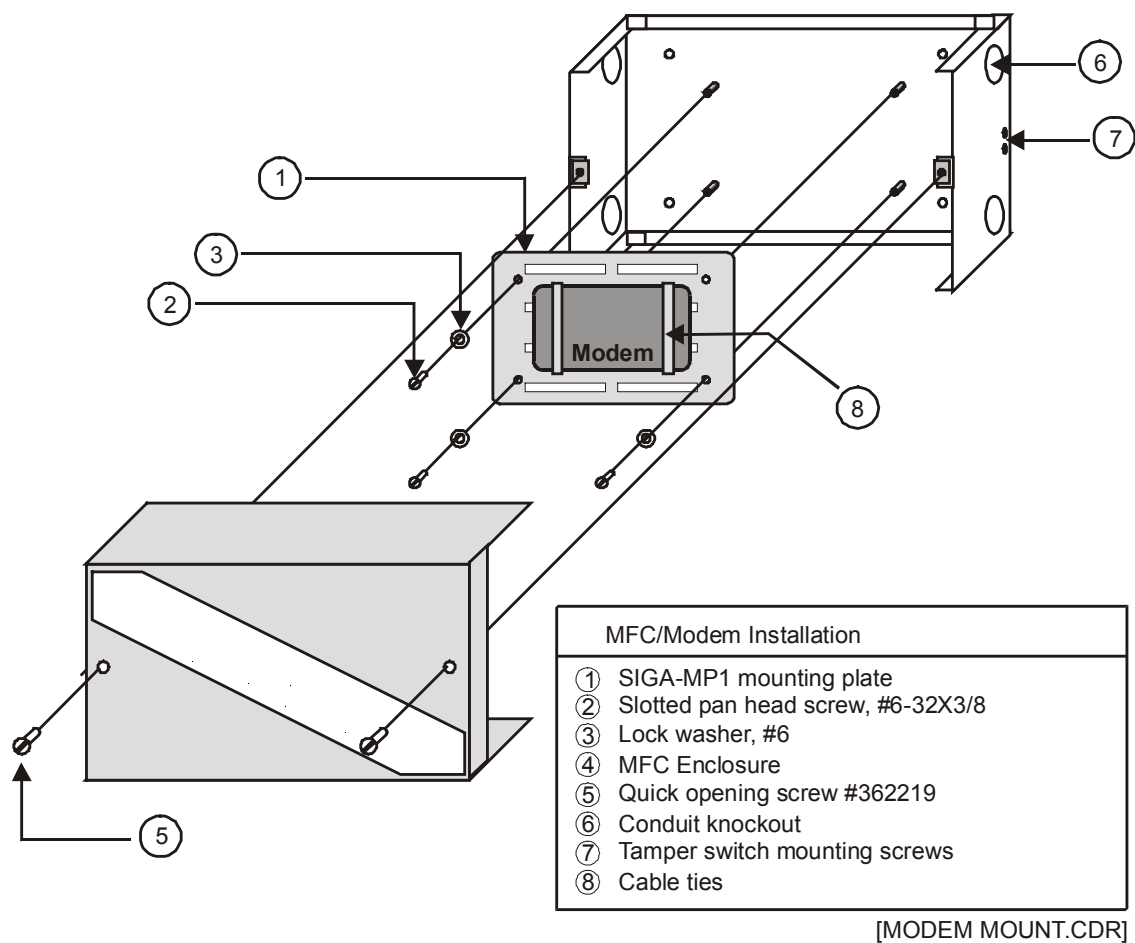

Figure 2-6: Suggested modem installation using MFCA and SIGA-MP1
1. Mount the MFCA enclosure back box at an acceptable location within reach of the panel. Refer to Figure 2-6.